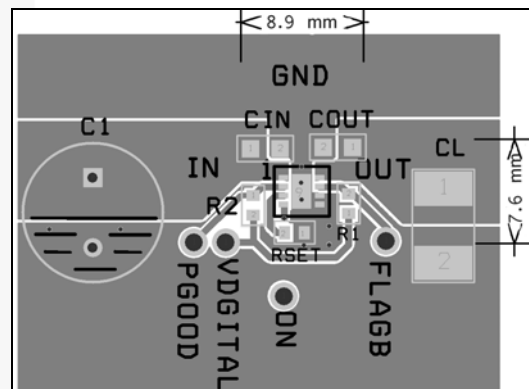
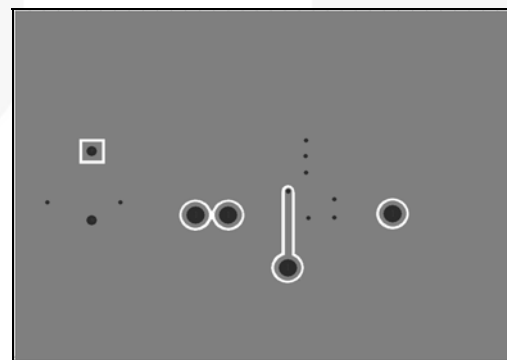

Figure 38. Proper Layout of Output and Ground Copper Area (Top, SST, and AST Layers)
Figure 39. Proper Layout (Bottom and ASB Layers)
For the best performance, all traces should be as short as possible. To be most effective, the input and output capacitors should be placed close to the device to minimize the effects that parasitic trace inductances may have on normal and short-circuit operation (Figure 38). Using wide traces for IN, OUT, and GND pins helps minimize parasitic electrical effects as well as the case-to-ambient thermal impedance.
3. The IN, OUT, and GND pins dissipate most of the heat generated during high-load current condition. The layout suggested in Figure 38 and Figure 39 is strongly recommended illustrating a proper layout for devices in MLP 3x3 packages. IN, OUT, and GND pins are connected to adequate copper so that heat may be transferred as efficiently as possible out of the device. The low-power FLAGB and ON pins traces may be laid-out diagonally from the device to maximize the area available to the ground pad. Place the input and output capacitors as close as possible to the device.